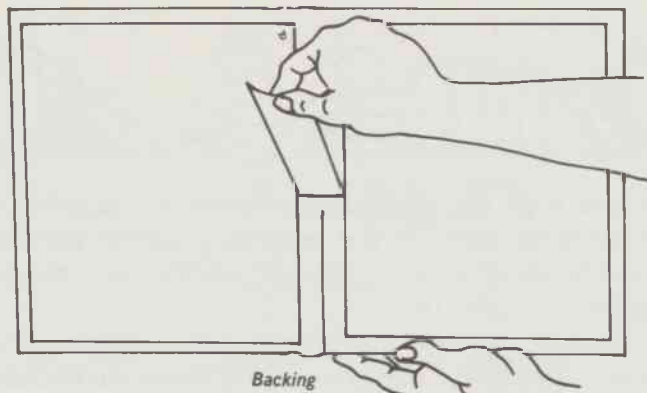

Figure 14.
- c. Remove the backing from the strip of tape on the inside center of the cover (Figure 14).